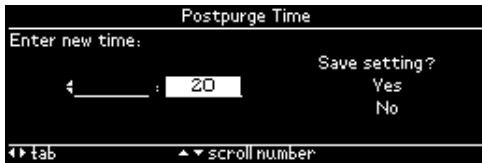

Fig. 71. Commission Postpurge time
- Valve Proving (VP) when option – see next figure
- Postpurge time – see Fig. 71
- Valve Proving (VP) time commission (when VP is not disabled) – see next figure
- Postpurge time commission (when VP is disabled and postpurge time is supported in BC) – see Fig. 71
- Postpurge time commission (when postpurge time is supported in BC) – see Fig. 71